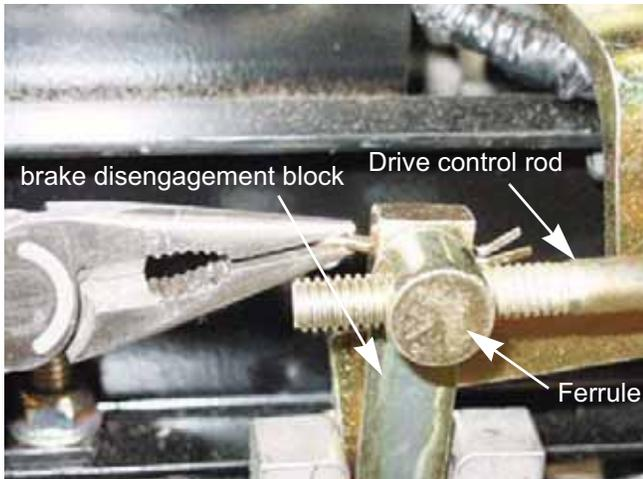

Figure 3.6
4. Remove the cotter pin that retains the ferrule of the drive control rod. See Figure 3.6.